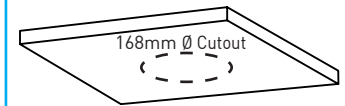
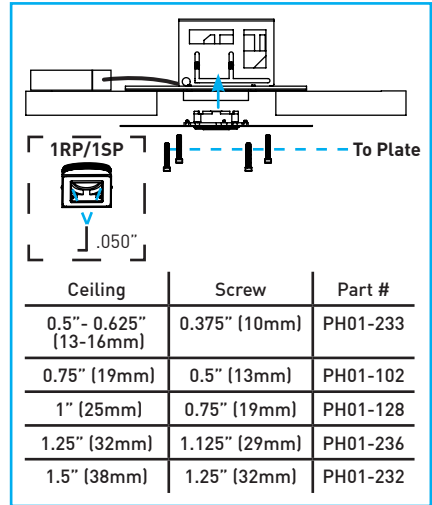

Fig. 1
Fig.4
Compatible with 0.50" (13mm) to 1.50" (39mm) ceilings. Correct size and quality of hole is critical, and are different between fixtures with integral and remote power supplies. Double check respective sizes in "Fig. 1" prior to making ceiling cut-outs.
Determine center point of trim location, utilizing prior clean and precise cut-out "Fig.1". Be cautious to avoid cutting or nicking wires above (See Section "C. WIRING").
The following instructions assume remodel power supplies have been connected and installed and/or proper ceiling cut-out has been made (Fig.1) and ready to accept housing and appliqué. (Fig.4)
After confirming accurate cutout size, carefully raise housing assembly into ceiling, positioning housing where base screw holes are visible. Attach appliqué using screws to housing collar, referencing "Fig.4" for correct collar screw length. Ensure all mounting screws are securely tightened, alternating tightening order to ensure flush installation. **DO NOT OVERTIGHTEN.**
**Important :** 1" Round and Square pinhole baffles (1RP/1SP) feature additional locking screws. Tighten using 0.50" allen key prior to plug installation (Fig.4).